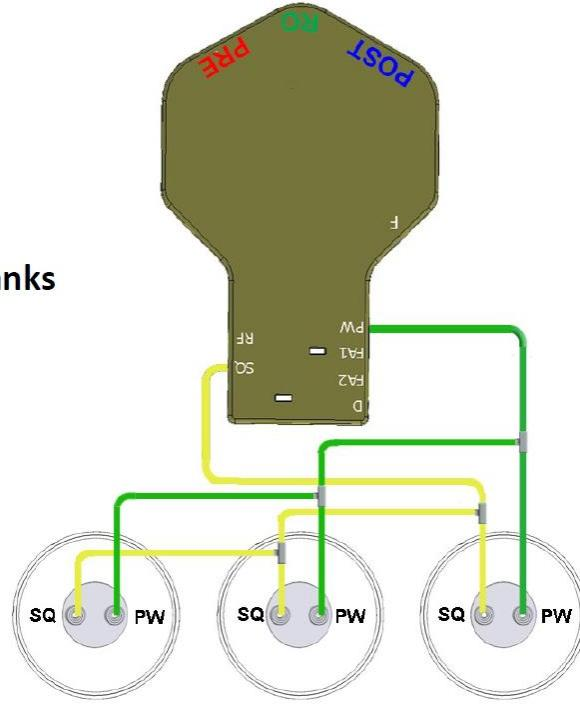

Figure 9: Multiple Tanks
- e. Connect $\frac{1}{4}$ " yellow tubing between the matching SQ ports on the **WOW RO System** manifold and the spare tank adapter connected to the spare tank (See Figure 9 below for one or multi-ple tank set-ups).
- f. Connect $\frac{1}{4}$ " green tubing between the matching PW ports on the manifold and the adapter (See Figure 9 below for one or multiple tank set-ups).